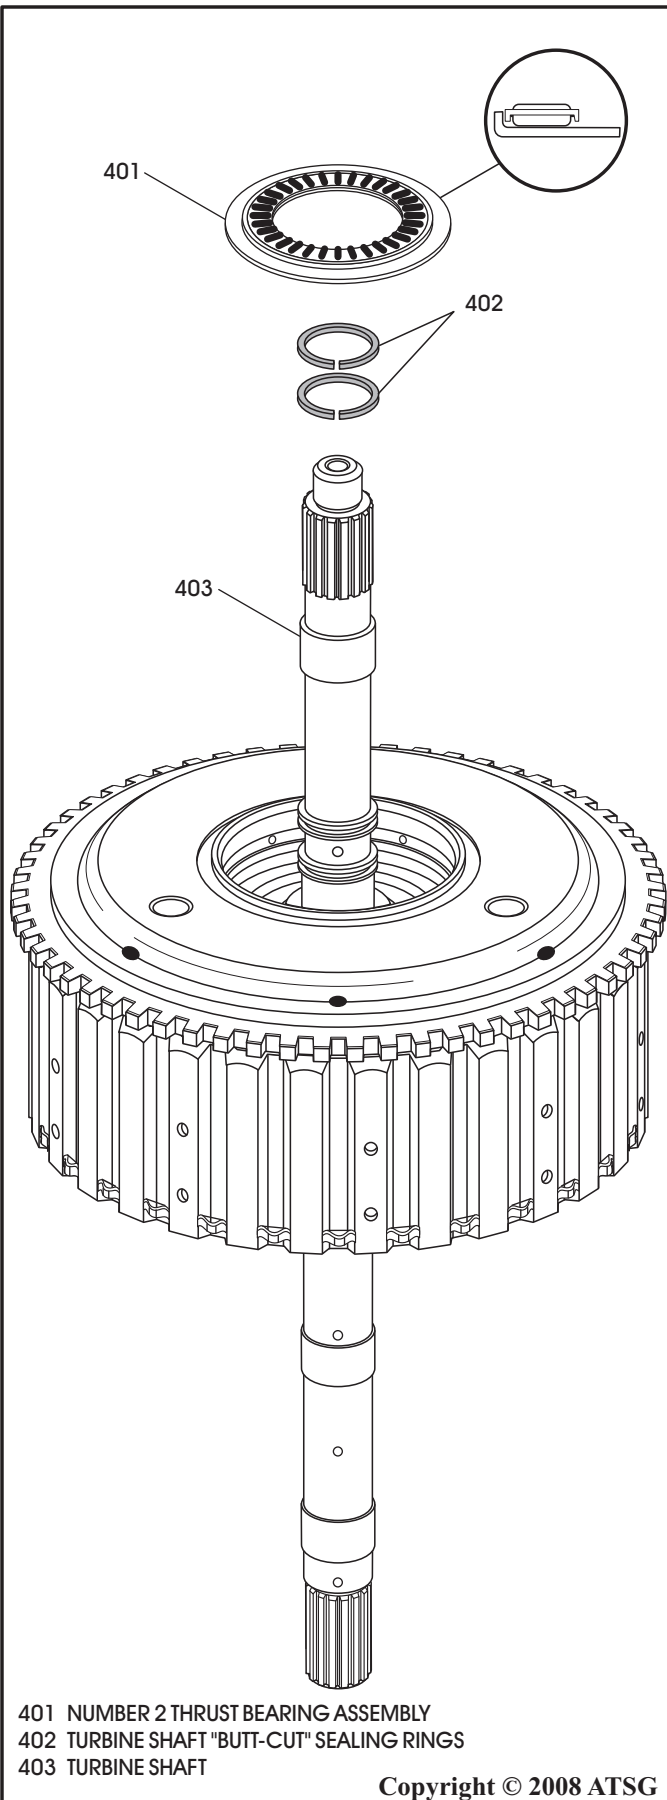

Figure 101
31. Install 2 new butt-cut teflon sealing rings into the grooves of the turbine shaft, as shown in Figure 101.
32. Install the number 2 thrust bearing, as shown in Figure 101, and retain with a small amount of Trans-Jel®.